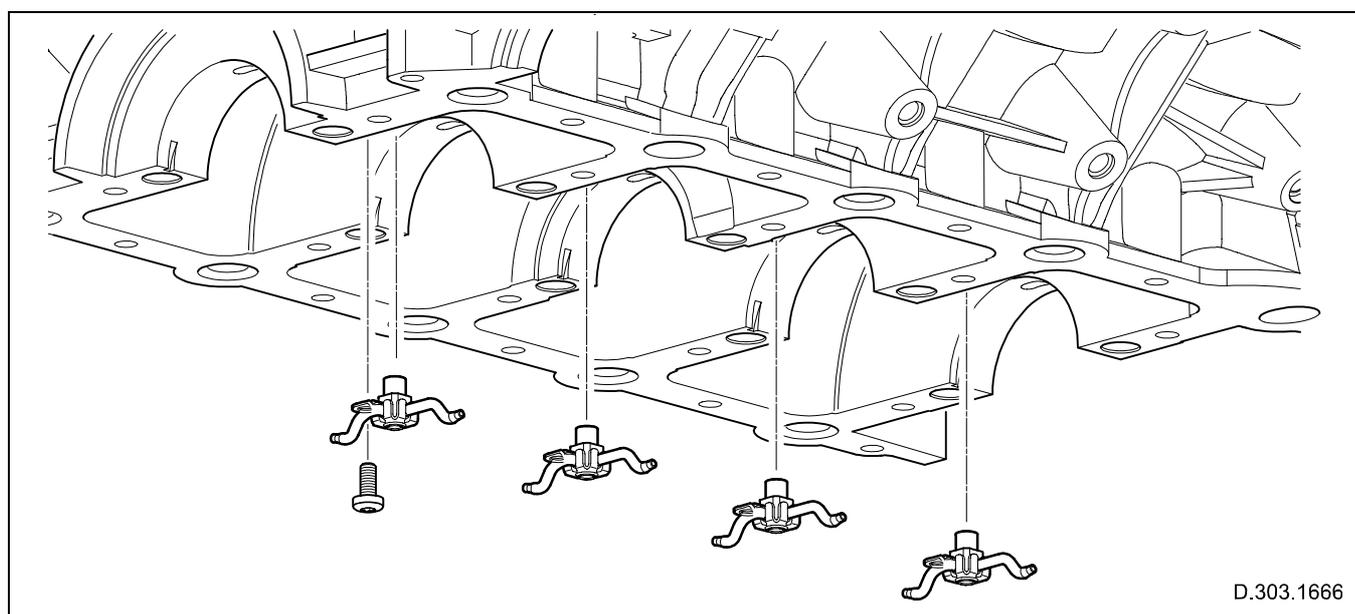

Fig. 33 Piston cooling jets - supercharged engine only
- The supercharged engine also employs piston-cooling jets, which inject oil on the underside of the piston's crown to provide improved temperature control; refer to Fig. 33